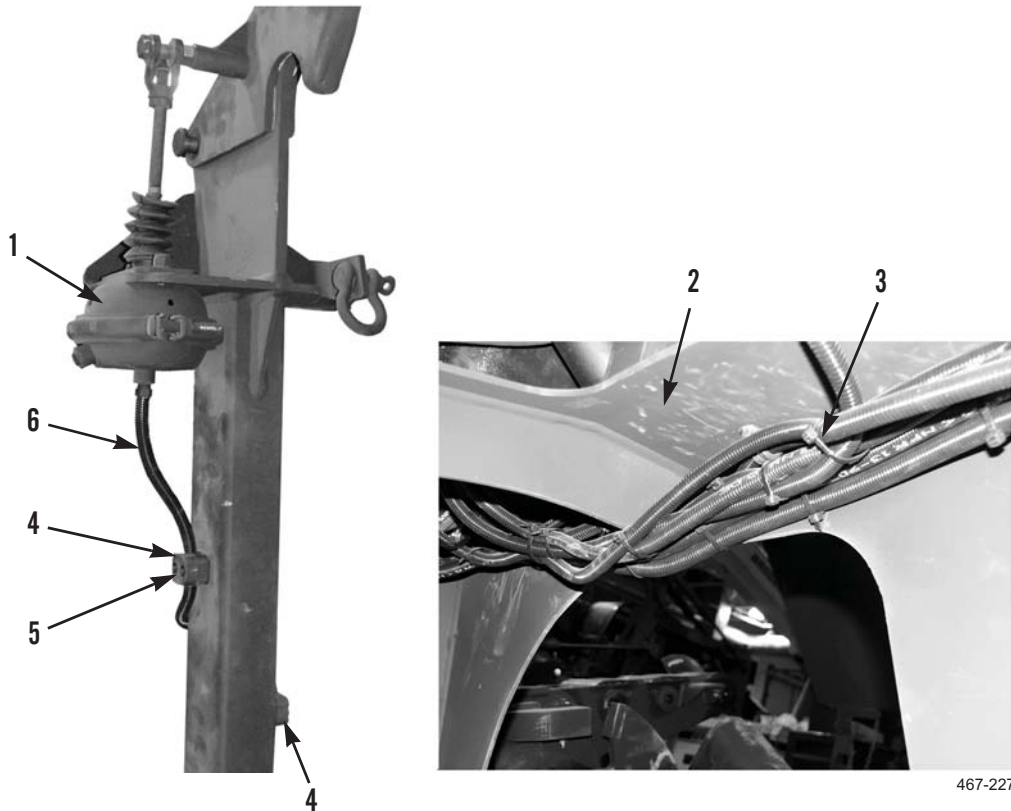

Figure 6. Latch Actuator Hose Removal.
3. Remove latch actuator hose (Figure 6, Item 6) from latch actuator (Figure 6, Item 1).
4. Loosen six screws (Figure 6, Item 5) on three hose clamps (Figure 6, Item 4).
5. Remove latch actuator hose (Figure 6, Item 6) from three hose clamps (Figure 6, Item 4).
6. Under stowage assembly (Figure 6, Item 2) remove and discard tiedown straps (Figure 6, Item 3) as required and remove latch actuator hose (Figure 6, Item 6) from stowage assembly.